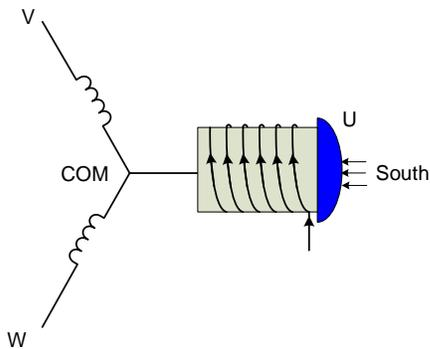

Figure 11: South Magnetic Field with Winding Direction
1. When the current flows into the stator phase winding, the south magnetic field is generated (see Figure 11 on page 28).